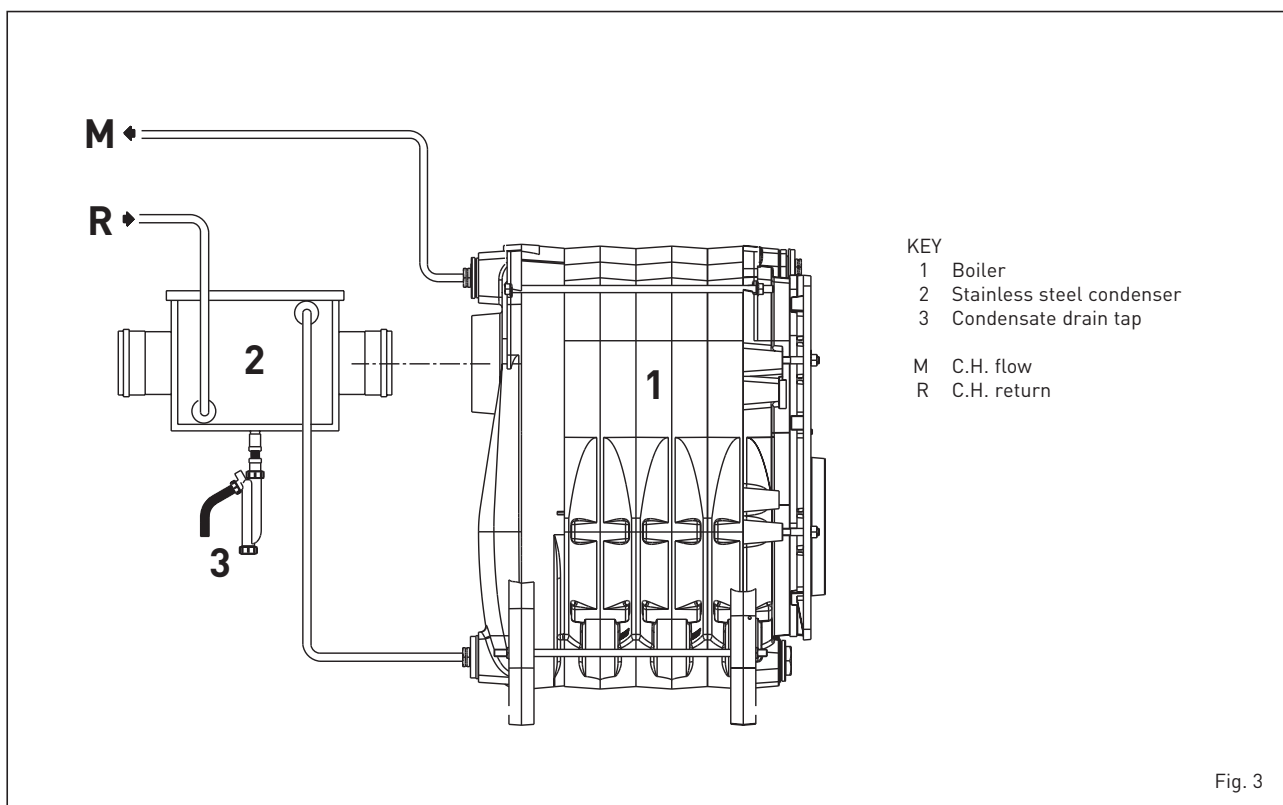

Fig. 3
1.4 FUNCTIONAL DIAGRAM (fig. 3)
The boiler door details is shown in figure 3/a for burner mounting.